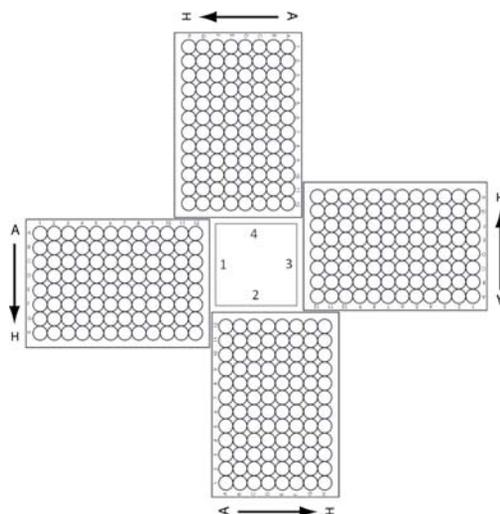

Figure 6 Labware MiniHub plate orientation. For Thermo Scientific reservoirs, place the notched corner facing the center of the hub.
14 Load the Labware MiniHub according to Table 16, using the plate orientations shown in Figure 6.
- 8 Load the Labware MiniHub according to Table 20, using the plate orientations shown in Figure 6.